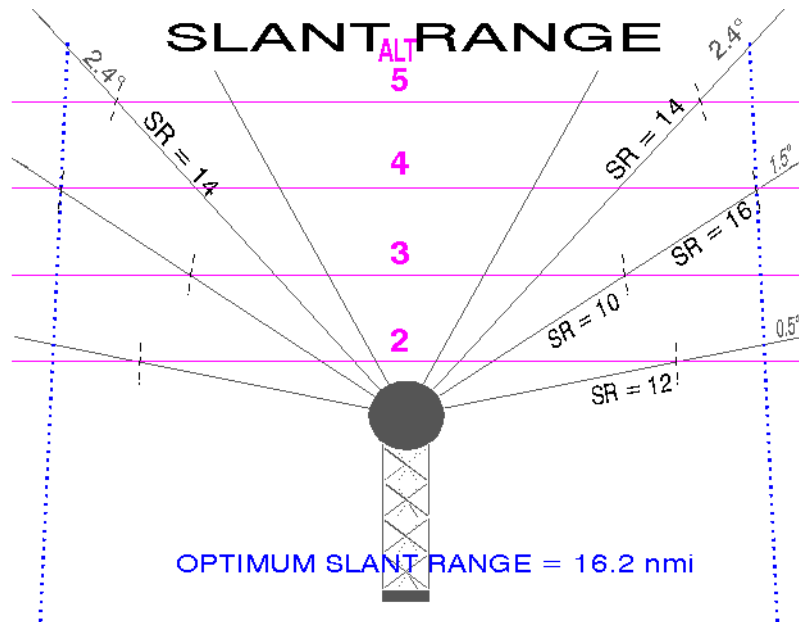

Figure 4-10. Slant Range
1. The VAD winds are computed using a single elevation angle at a constant **slant range**. For each altitude requested on the VAD Wind Profile, the VAD Algorithm selects the elevation angle that is closest to intersecting that altitude at the **VAD range** (adaptable parameter with a default of 30 km or 16.2 nm). The actual slant range will change dependent upon the altitude for which the VAD wind is being calculated (See Fig. 4-10 on page 87.).